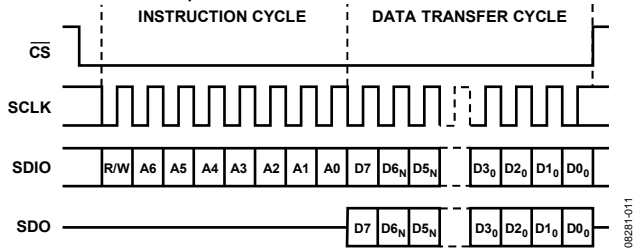
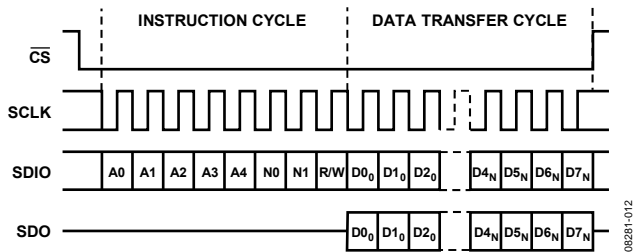

Figure 18. Serial Register Interface Timing MSB-First
Figure 19. Serial Register Interface Timing LSB-First
1. 2x interpolation: Either the first (HB1) or second (HB2) half-band filter can be used for 2x interpolation (Register 0x00F). Figure 18 and Figure 19 show the frequency response when HB1 and HB2 are used respectively. The frequency (x-axis) is normalized to the DAC sample rate. Hence in this case, the bandwidth of HB1 is  $0.4 \times F_{dac}$  or  $0.8 \times F_{data}$ . Similarly, the bandwidth of HB2 is  $0.25 \times F_{dac}$  or  $0.5 \times F_{data}$